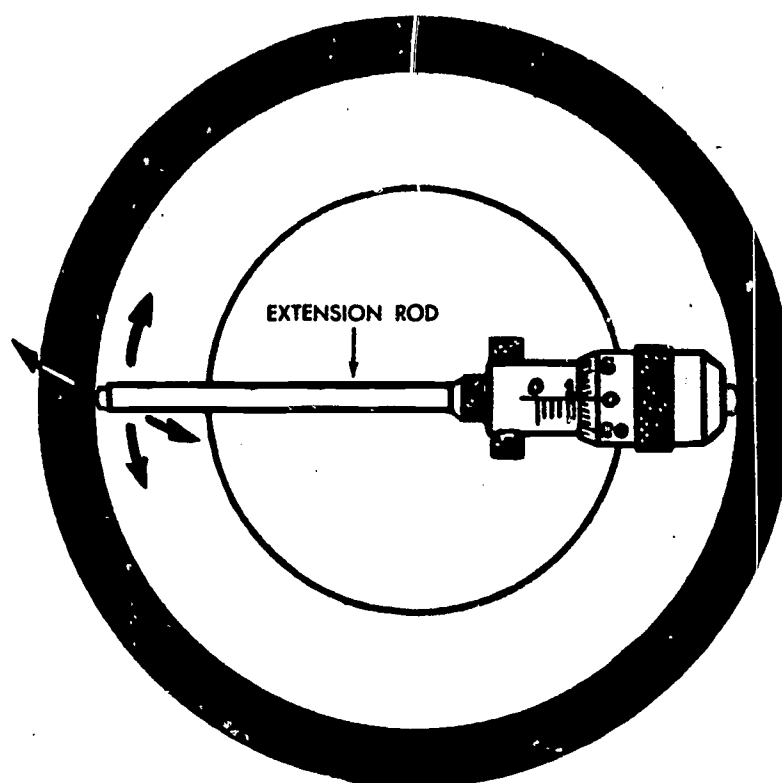

Fig. 12 Using inside micrometer with extension rod.
4. Rock the mic so the point on the thimble swings in arcs in different directions, as shown in Figure 12. This action tells you that the mic is spanning the true diameter of the hole.